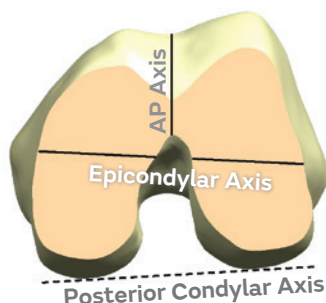

Figure 20
2. Optional: Mark the A/P and epicondylar axes on the femur (**Figure 20**).